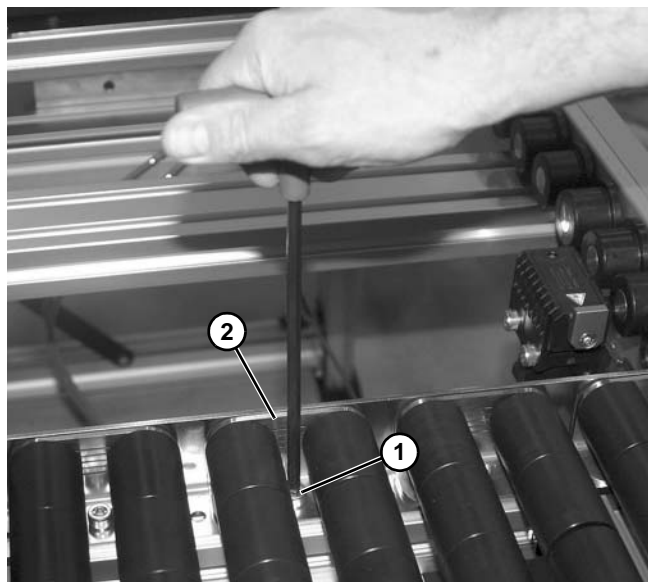

Figure 120
10. On the opposite end, loosen screws (Figure 120, item 1) securing bracket (Figure 120, item 2) onto conveyor frame.